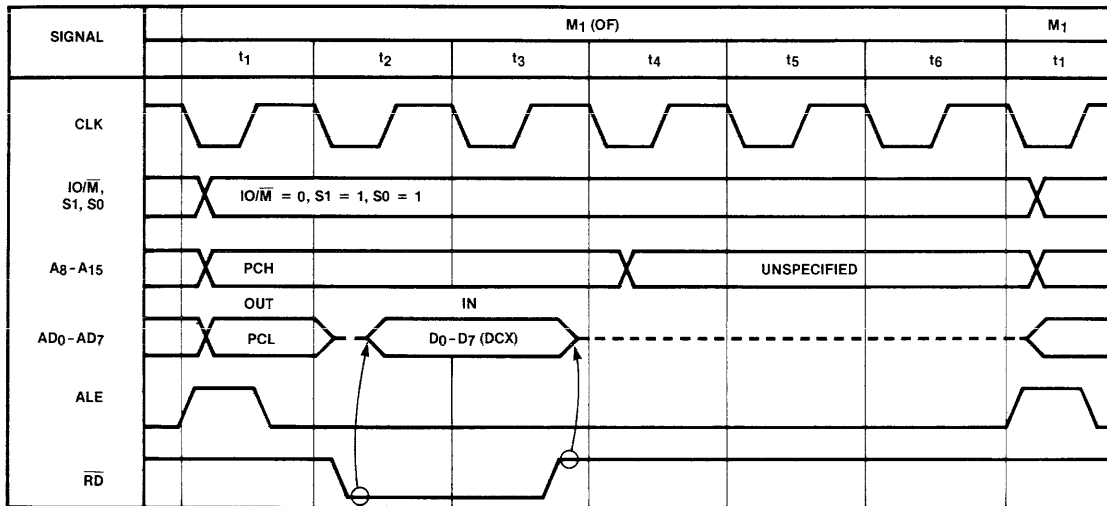
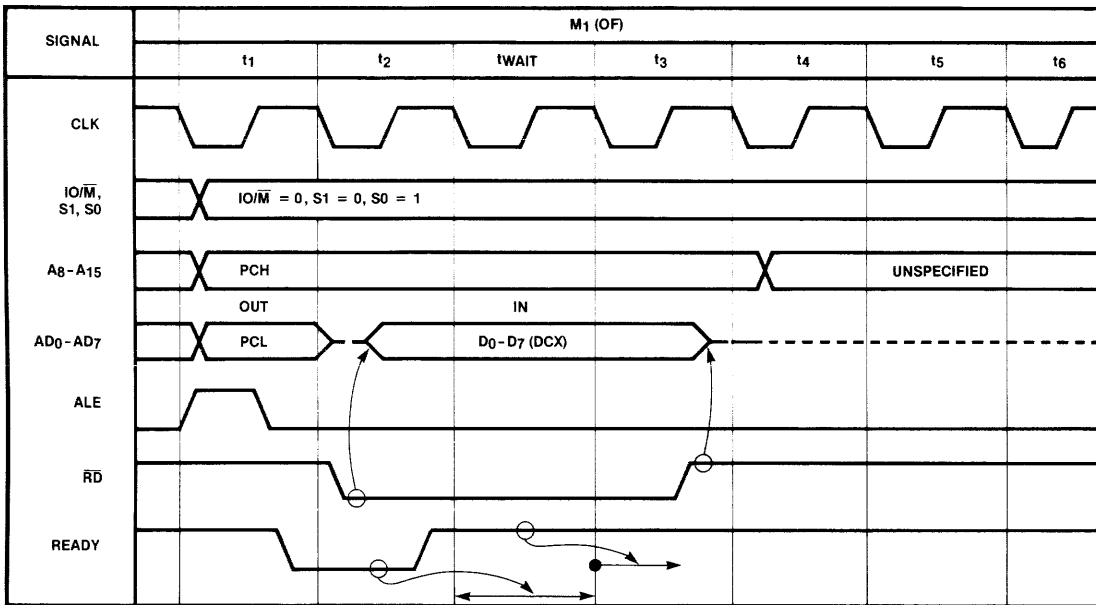

Figure 4-4. Opcode Fetch Machine Cycle (No Wait)
Figure 4-5. Opcode Fetch Machine Cycle (With Wait)
**4-19. OPCODE FETCH TIMING.** Figure 4-4 shows the timing relationship of a typical opcode fetch machine cycle. At the beginning of  $T_1$  of every machine cycle, the CPU performs the following:
Figure 4-5 is identical to figure 4-4 with one exception, which is the use of the READY input to the CPU. As shown in figure 4-5; the CPU examines the state of the READY input during  $T_2$ . If the READY input is high, the CPU will proceed to  $T_3$  as shown in figure 4-4. If the READY input is low, however, the CPU will enter the  $T_{wait}$  state and stay there until READY goes high. When READY goes high, the CPU will exit the  $T_{wait}$  state and enter  $T_3$ . The external effect of using the READY input is to preserve